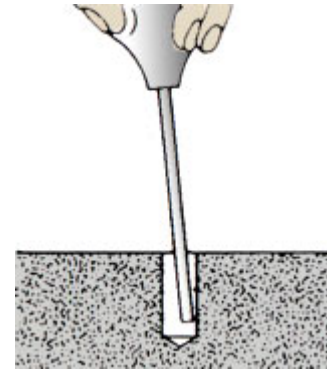

Figure 7
7. Before proceeding with installation, the hole must be cleaned of all concrete dust to ensure proper fastening. Use a wire brush, a vacuum or compressed air to clean out the hole completely. (Figure 7)